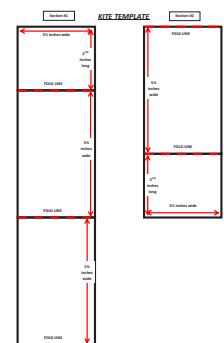

Fig. 18 Kite Template
1. **Cut out Sections #1, #2 and #3 of the Kite Template. (Figure 18).**
(Figure 18)